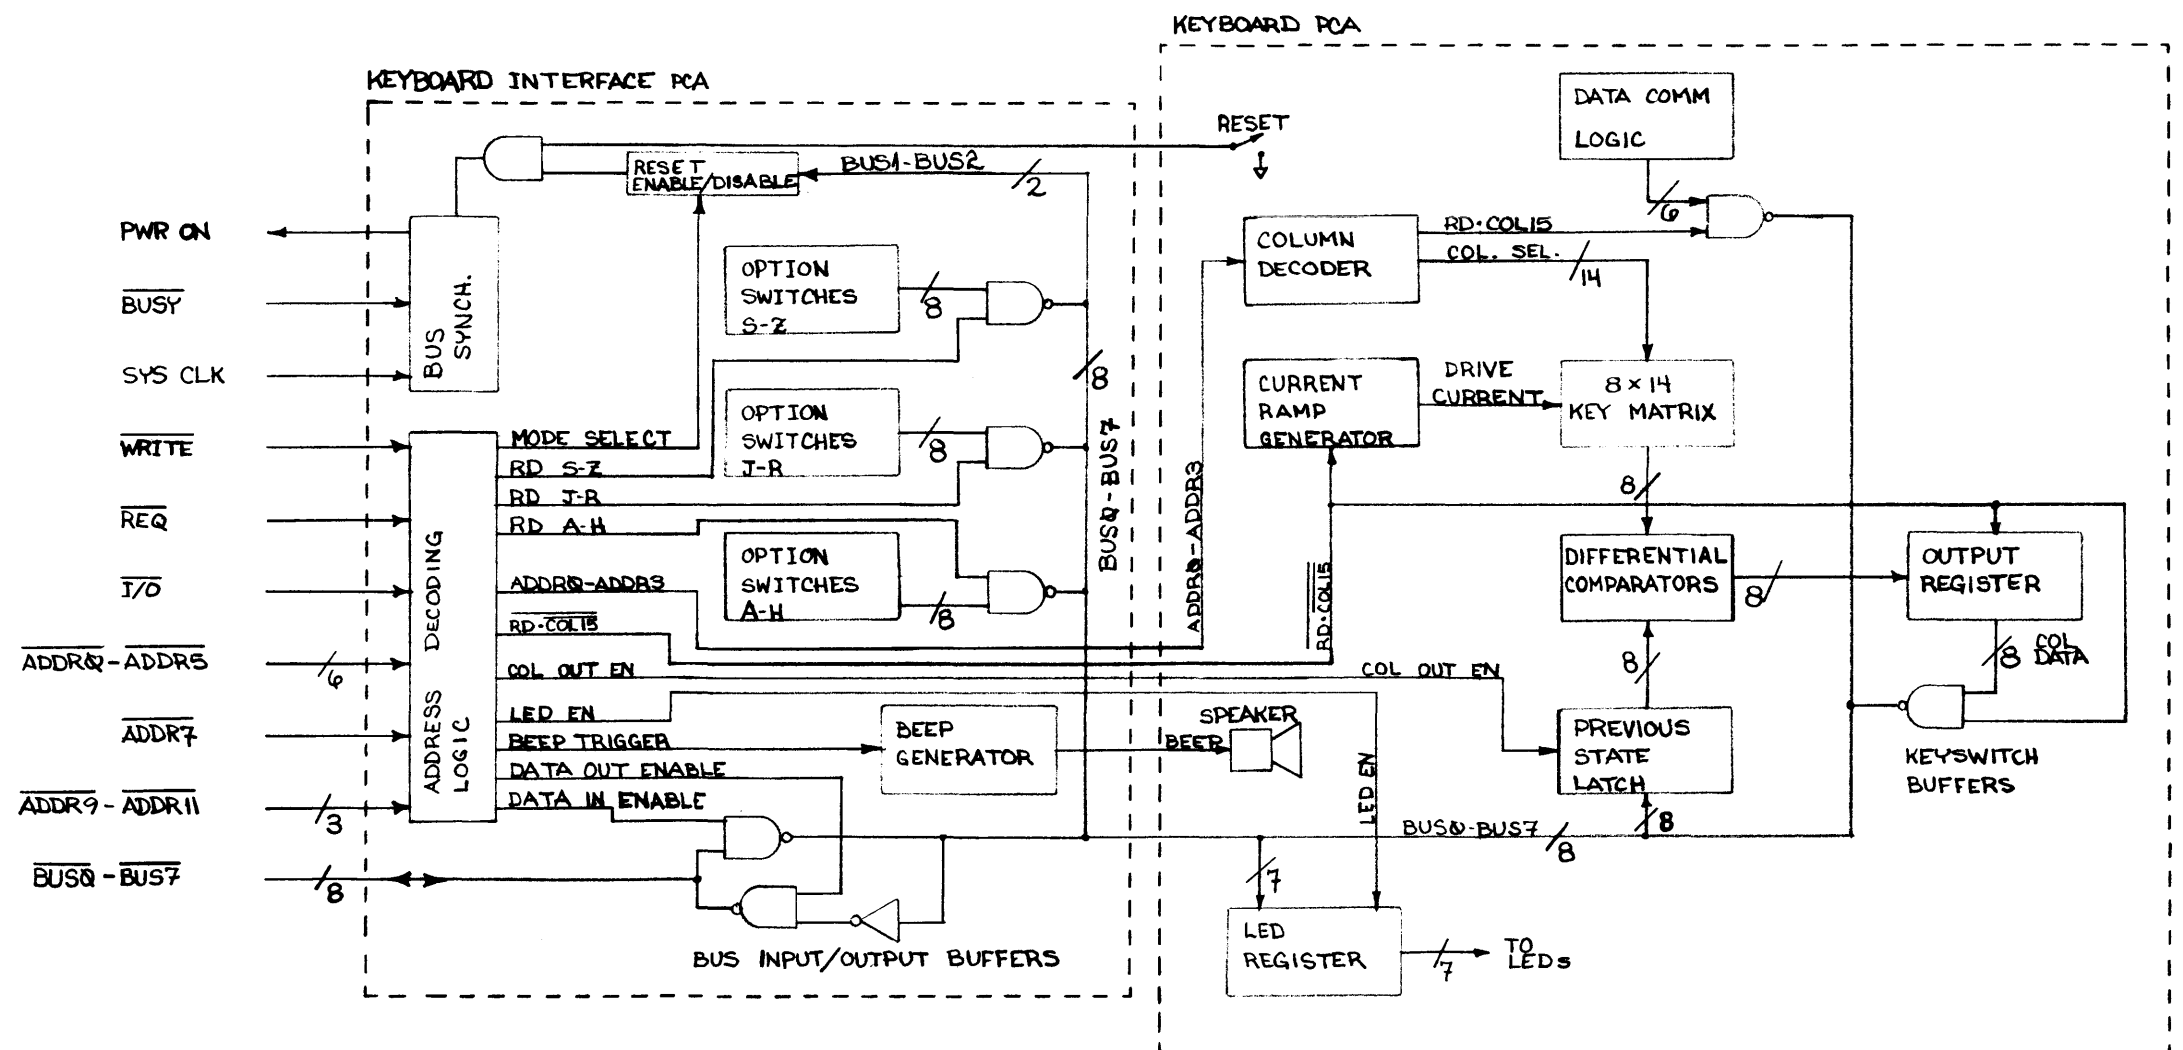
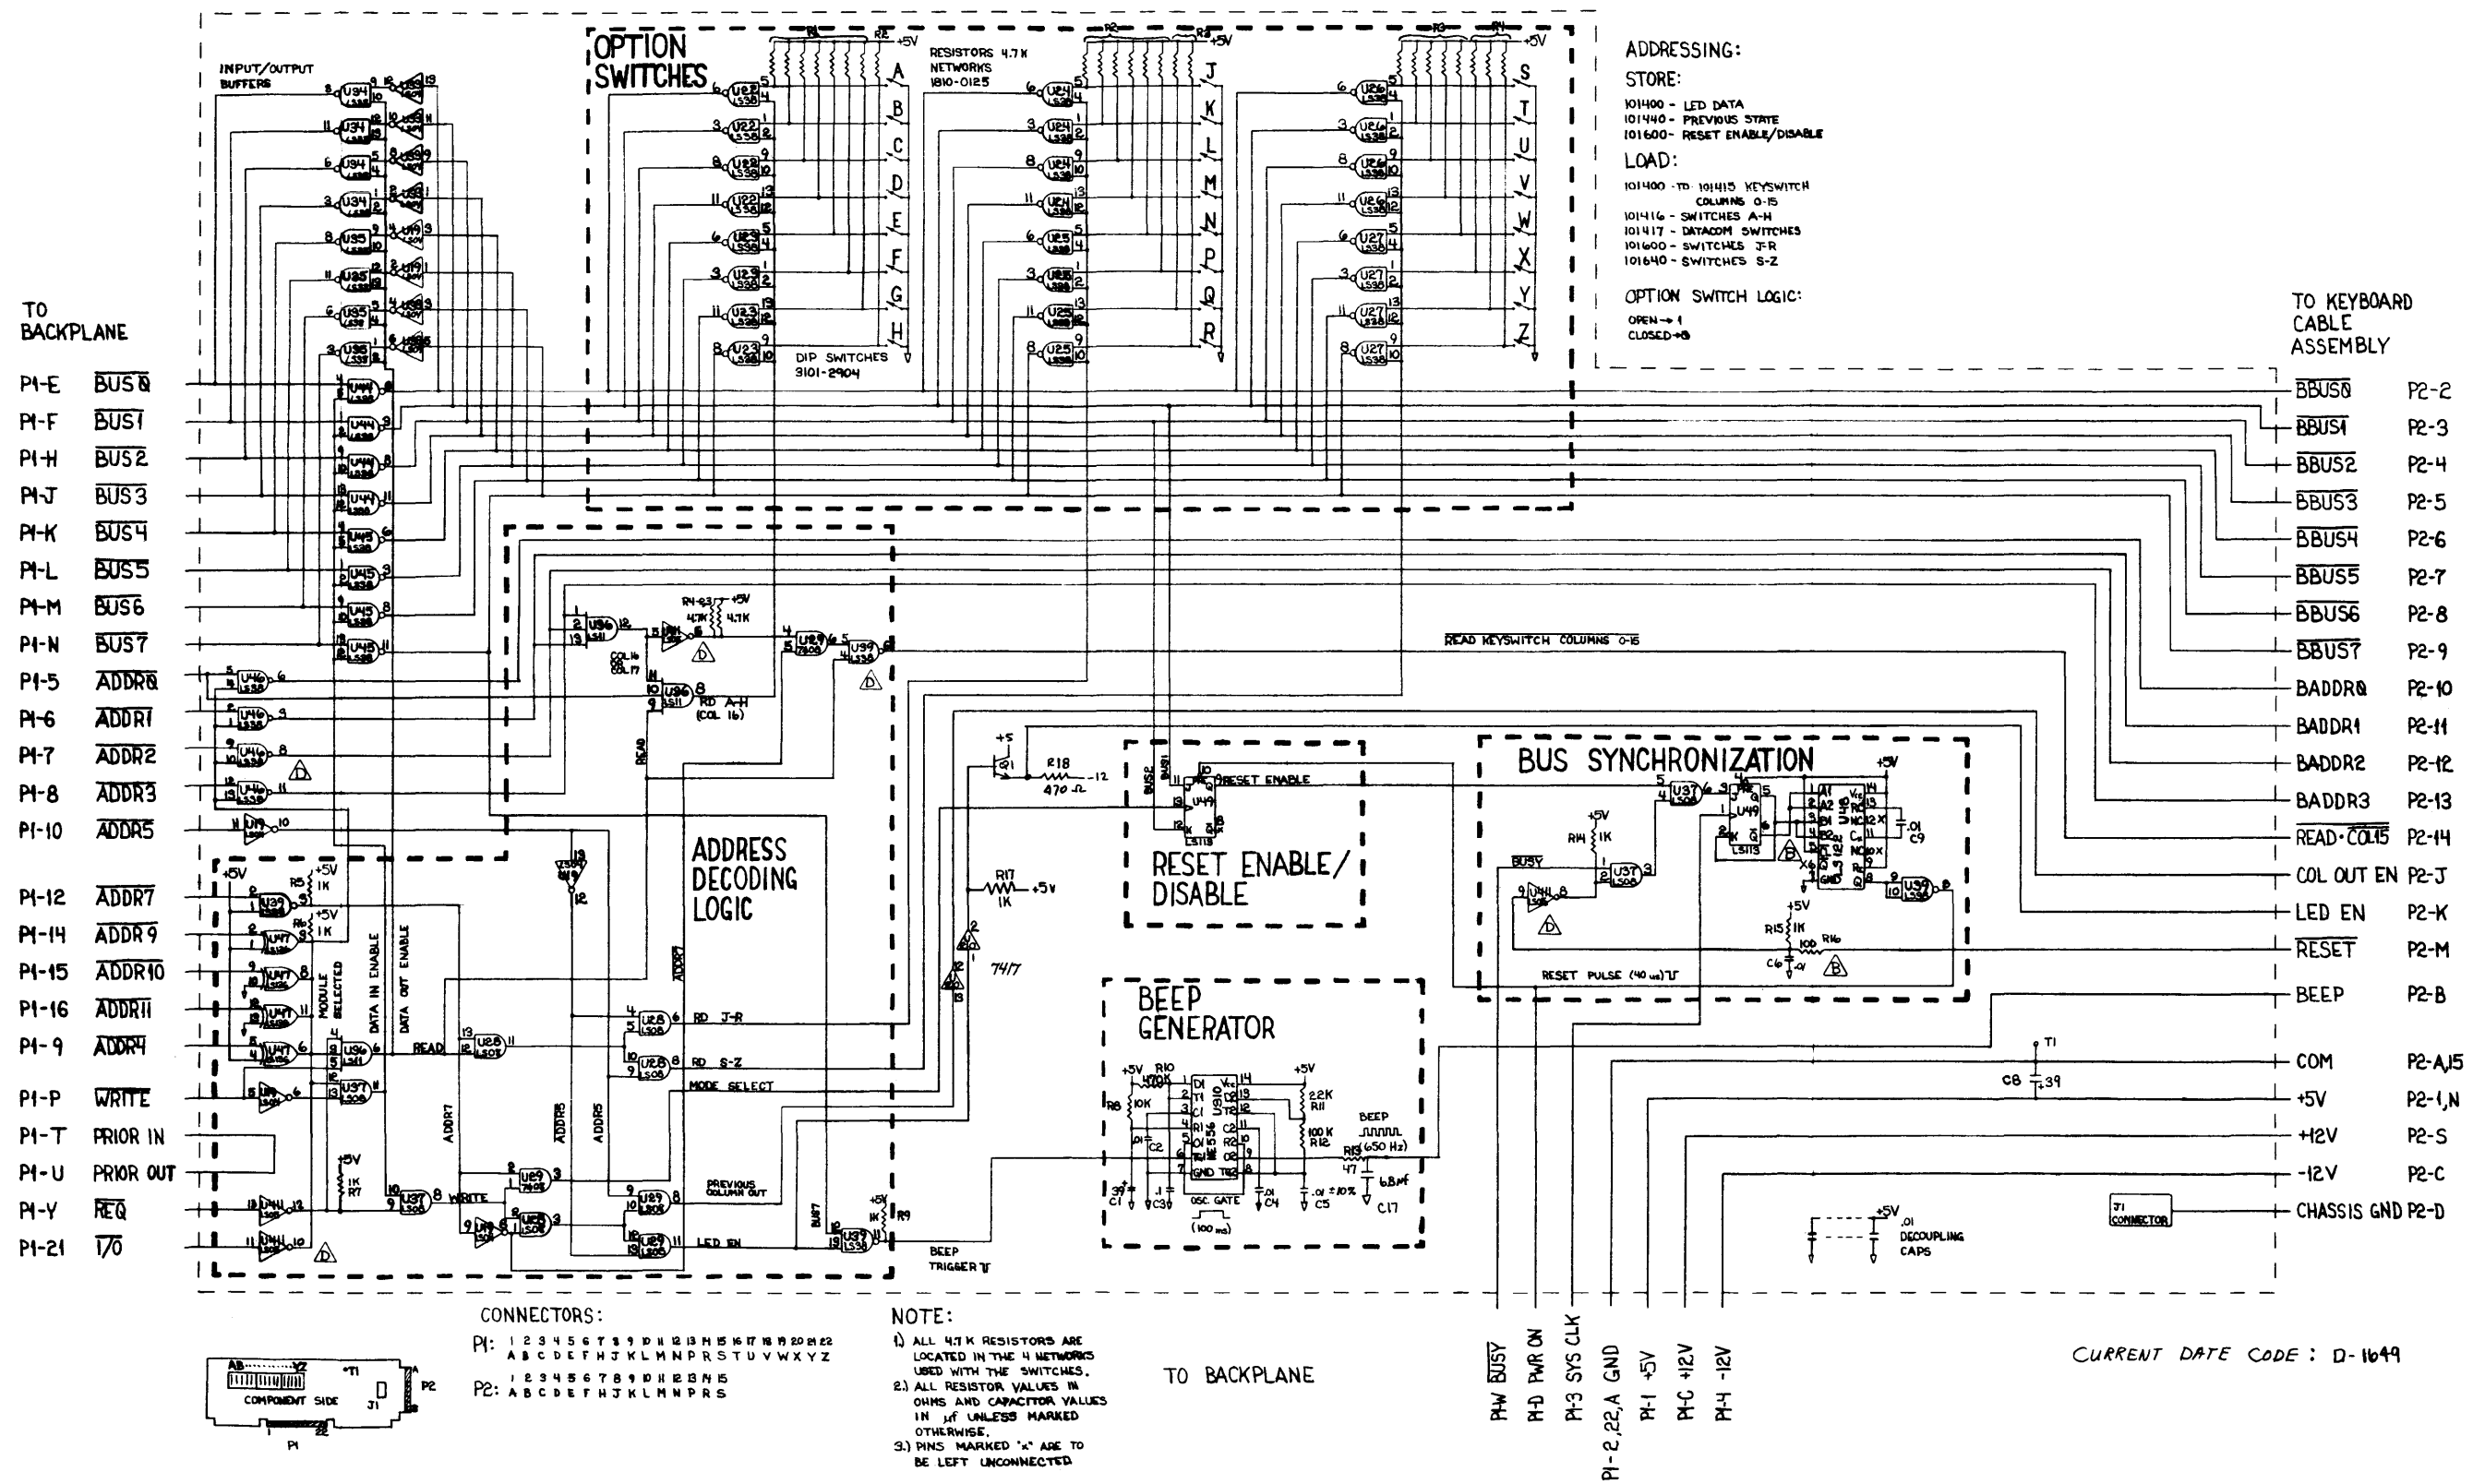
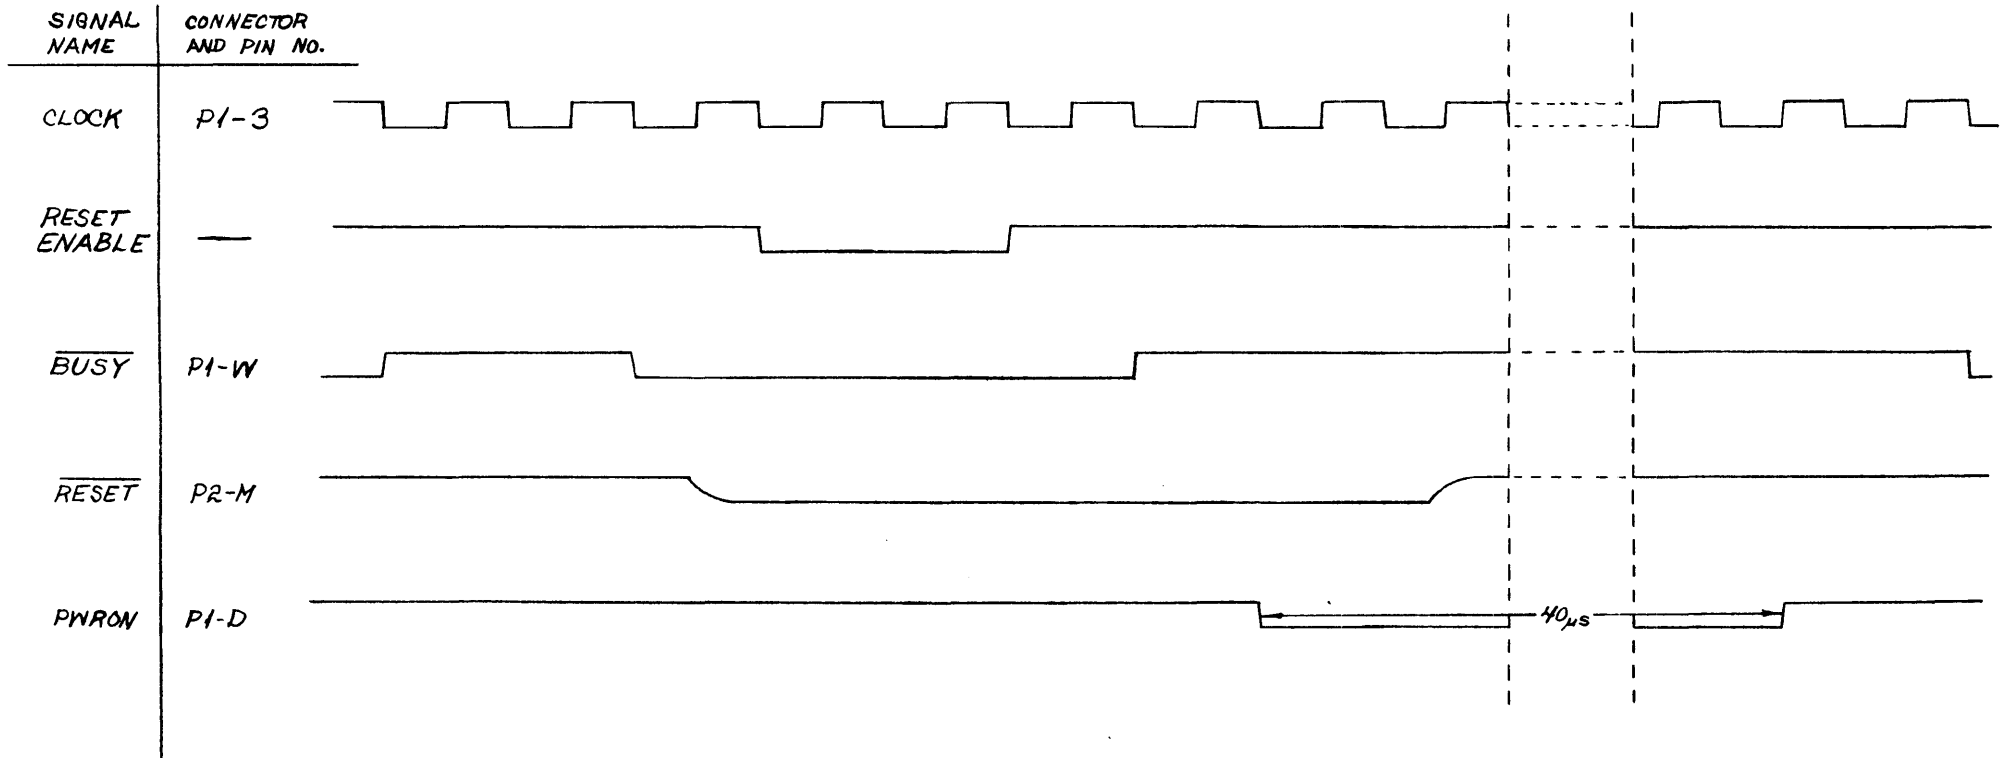

Figure 1
Figure 2
Figure 3
- 3.0 FUNCTIONAL DESCRIPTION. Refer to the block diagram (figure 1), schematic diagram (figure 2), timing diagram (figure 3), component location diagram (figure 4), and parts list 02640-60123 located in the appendix.